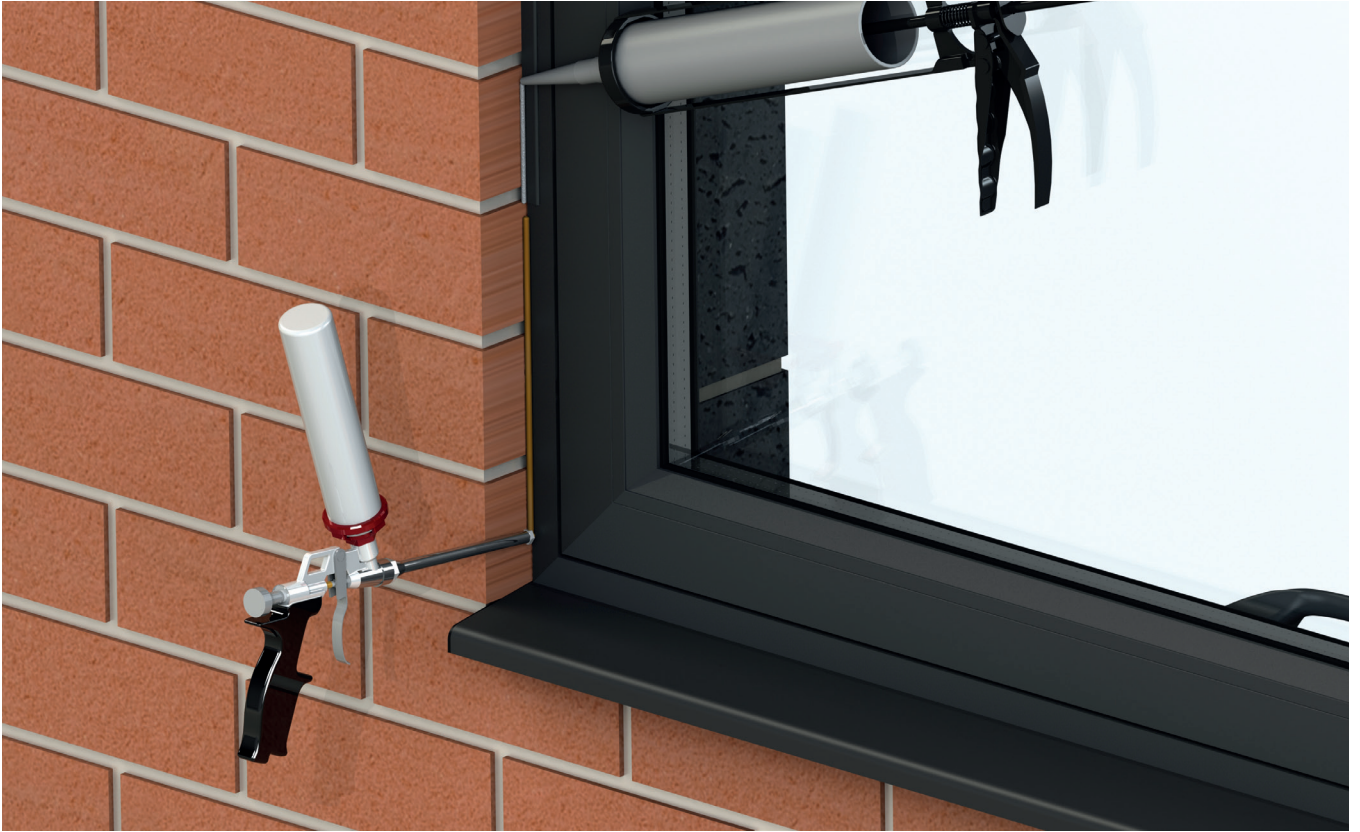

FIG 6
- ▶ **3.2.** Sealant must be applied around the outside perimeter of the window frame and opening /mull bar (if used). (Fig.6)